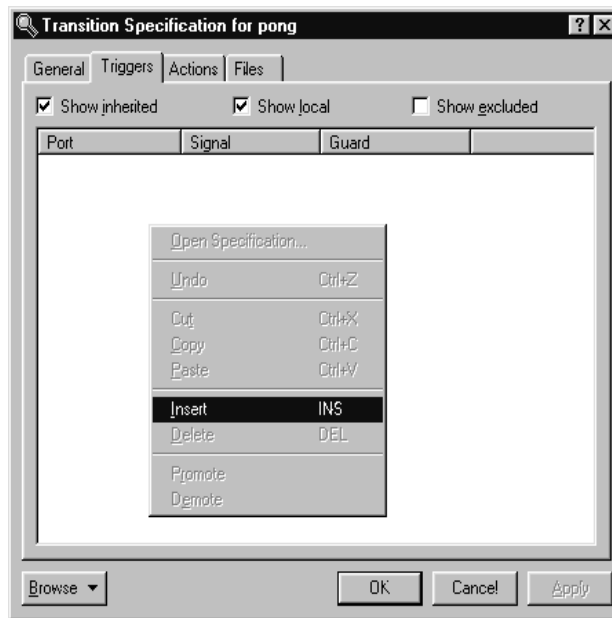

Figure 21 Adding triggers to a transition
13. Right-click in the control area and select **Insert** from the pop-up menu as shown in Figure 21.